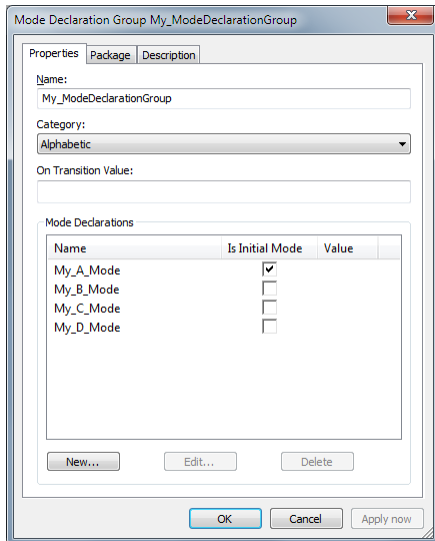

Figure 4-40 My_ModeDeclarationGroup
- The mode declaration group is configured (see Figure 4-40):